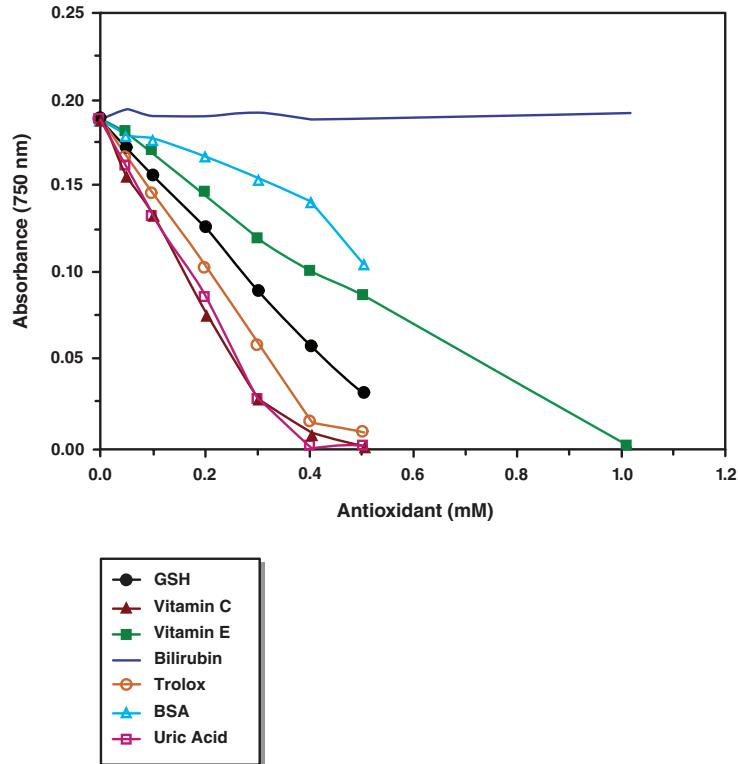

Figure 1. Inhibition of ABTS® oxidation by antioxidants
Cayman's Antioxidant Assay can be used to measure the total antioxidant capacity of plasma, serum, urine, saliva, cell lysates, or tissue homogenates. Aqueous- and lipid-soluble antioxidants are not separated in this protocol, thus the combined antioxidant activities of all its constituents, including vitamins, proteins, lipids, glutathione, uric acid, etc. are assessed (see Figure 1 on page 8). The assay relies on the ability of antioxidants in the sample to inhibit the oxidation of ABTS® (2,2'-azino-di-[3-ethylbenzthiazoline sulphonate]) to ABTS®•+ by metmyoglobin. The amount of ABTS®•+ produced can be monitored by reading the absorbance at 750 or 405 nm. Under the reaction conditions used, the antioxidants in the sample cause suppression of the absorbance at 750 or 405 nm to a degree that is proportional to their concentration.2-5 The capacity of the antioxidants in the sample to prevent ABTS® oxidation is compared with that of Trolox, a water-soluble tocopherol analogue, and is quantified as millimolar Trolox equivalents (TE).